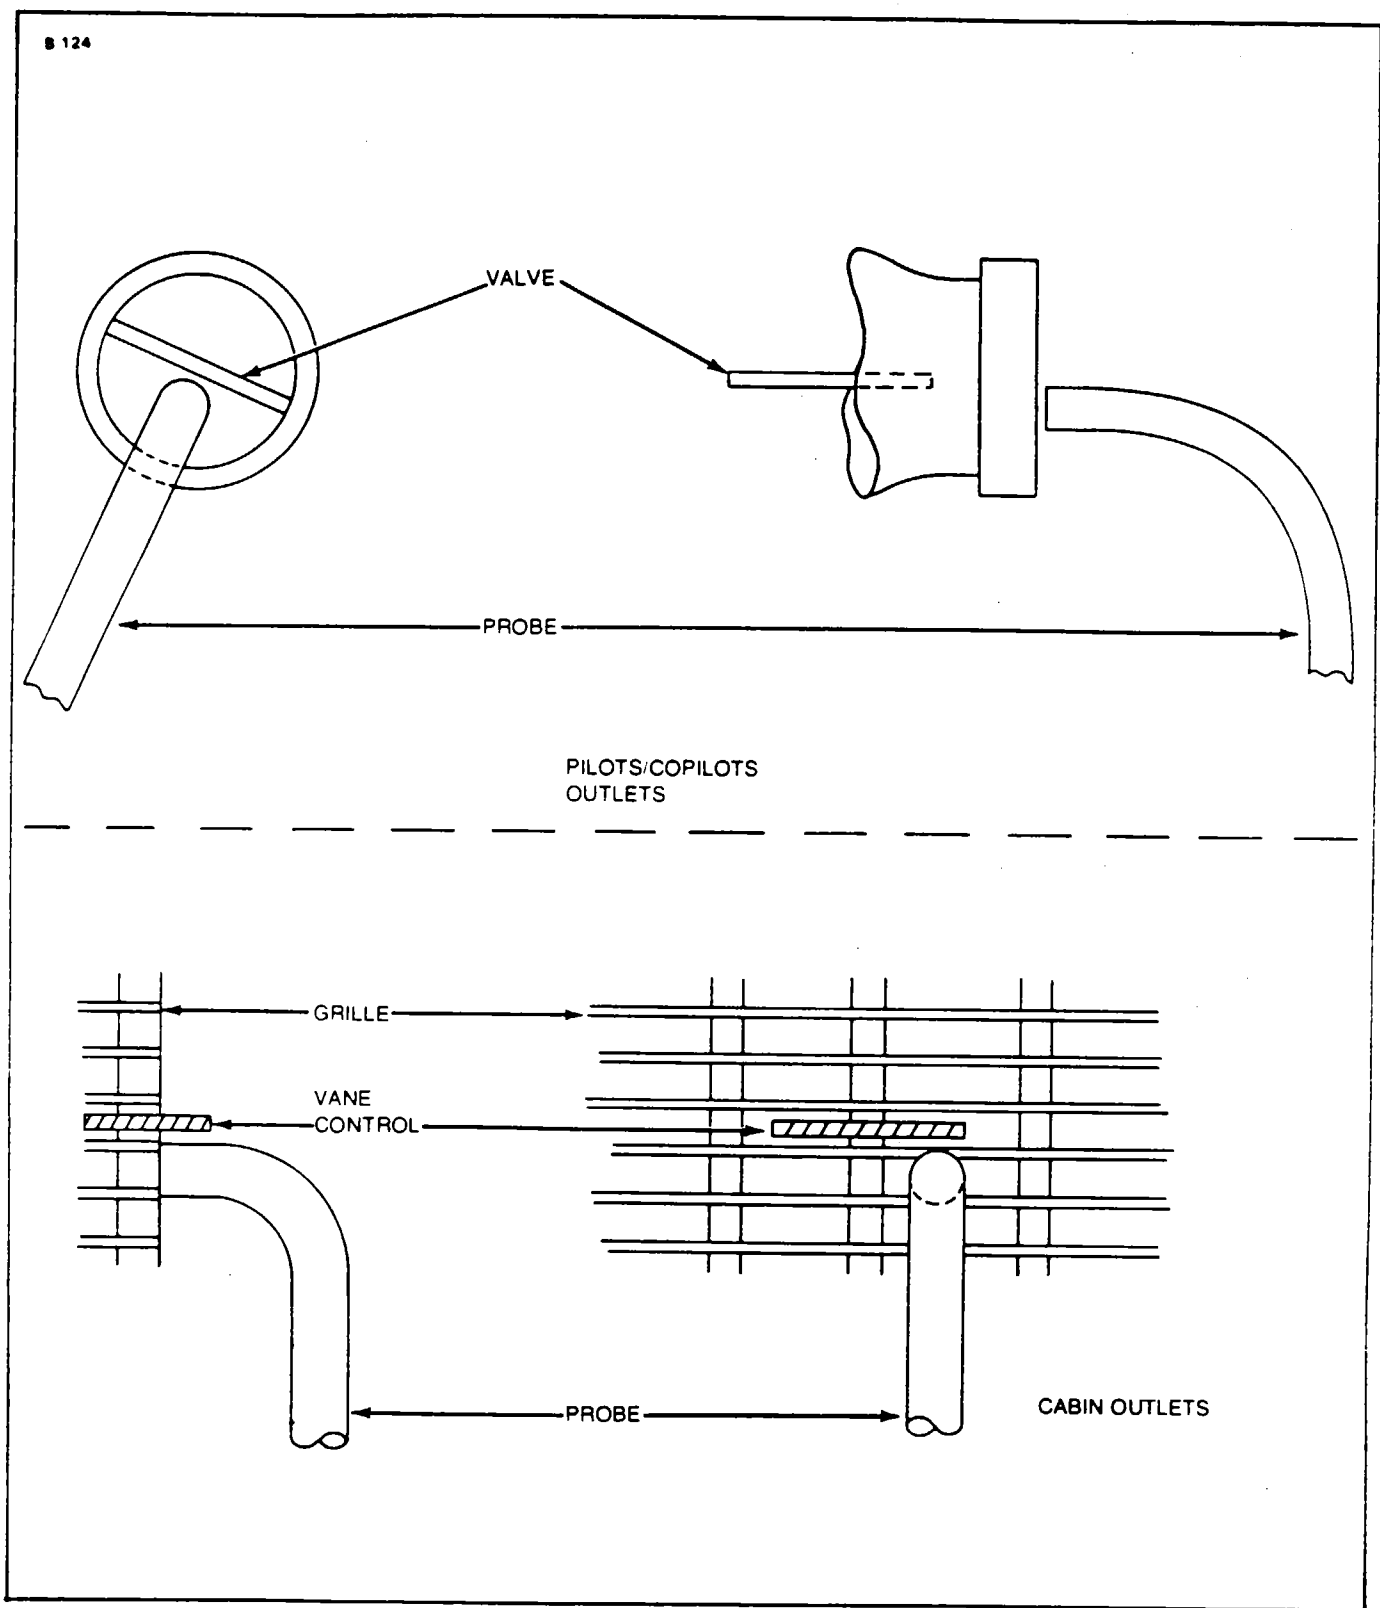

Figure 14-44. Positioning of Airflow Probe
c. When checking air flows, hold the probe from the flow meter perpendicular to and in the center of the outlet. Refer to Figure 14-44.